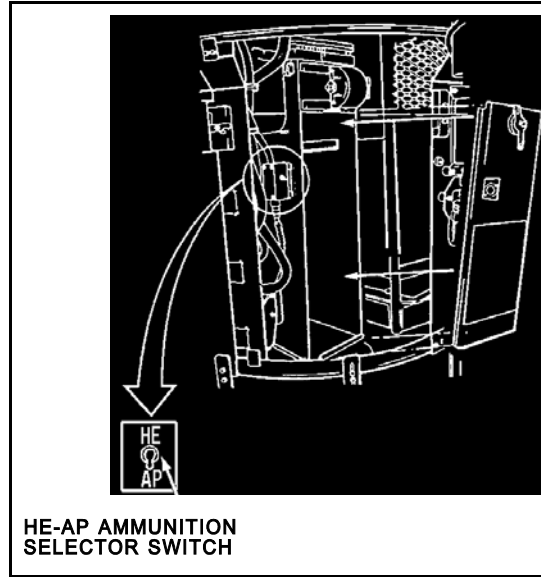

Figure 6. HE-AP ammunition selector switch.
9. Move the HE-AP ammunition selector switch to the correct position for the ammunition loaded (Figure 6).